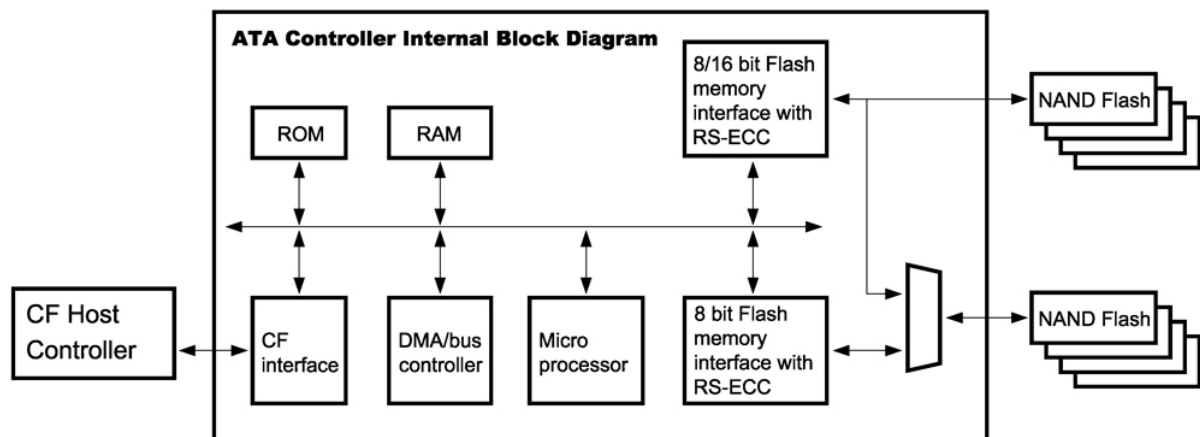

Figure 1: CompactFlash Card Hermit series Controller Block Diagram
Figure 1 shows a block diagram of the used high tech Industrial CompactFlash (CF) Card controller.